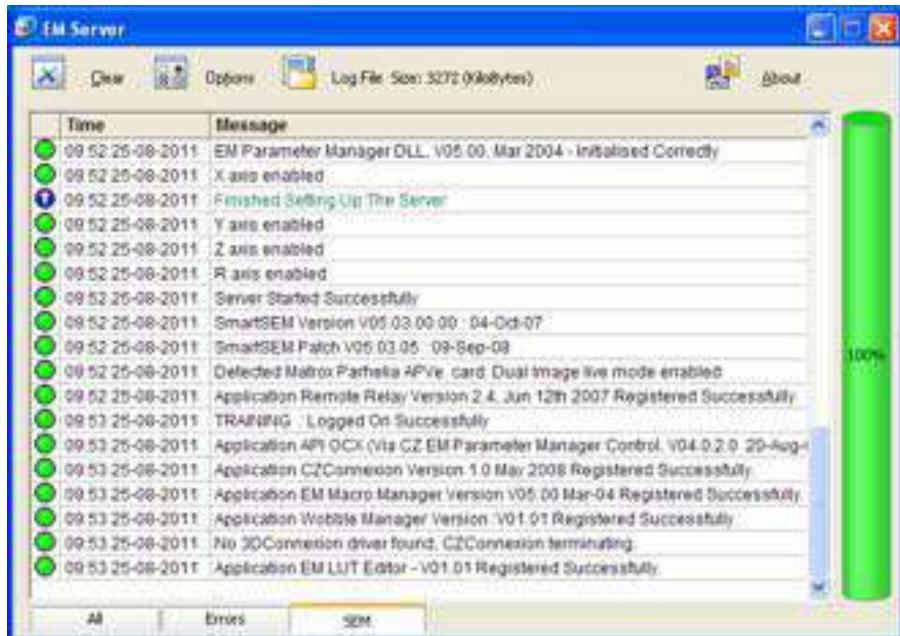

Figure 7 EM server window
4. The EM server window will pop-up as shown in Fig. 7 and initialization will complete in under a minute. Do not be alarmed in case you encounter a **5V supply failure** message. This usually disappears in a few seconds. Minimize the EM server window when initialization is complete.